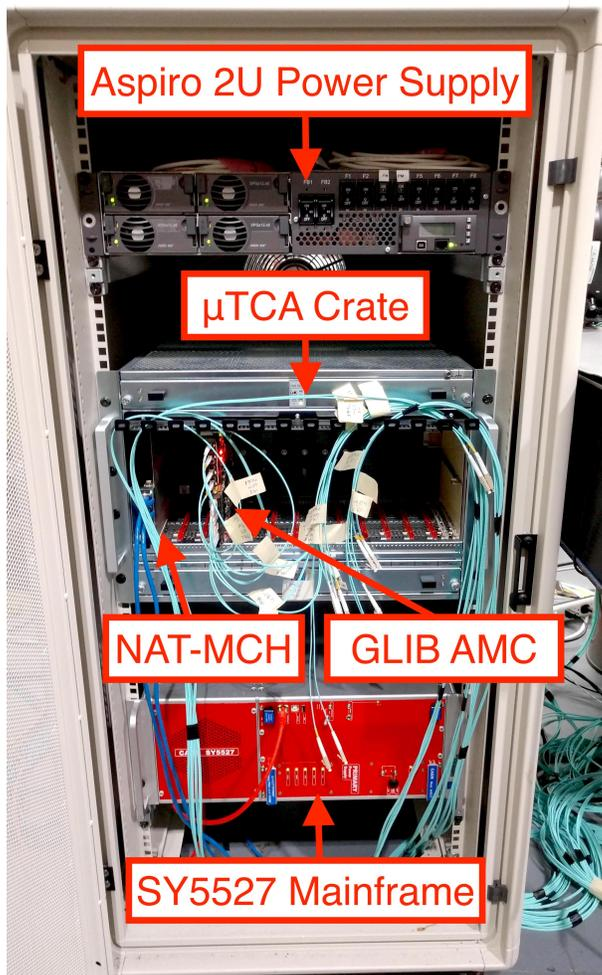

Figure 9: A picture of the rack at Florida Tech with all of the backend components labeled.
This section provides an overview of the backend electronics. Here, we discuss the Aspiro 2U power supply, the MicroTCA[®] crate, the NAT-MicroTCA Carrier HUB (NAT-MCH), the GLIB AMC, and the CAEN SY5527 mainframe, as well as the CAEN A2519 low voltage (LV) and A515 high voltage (HV) boards. See Fig. 9 below for a diagram of the rack which houses all of the backend electronics.